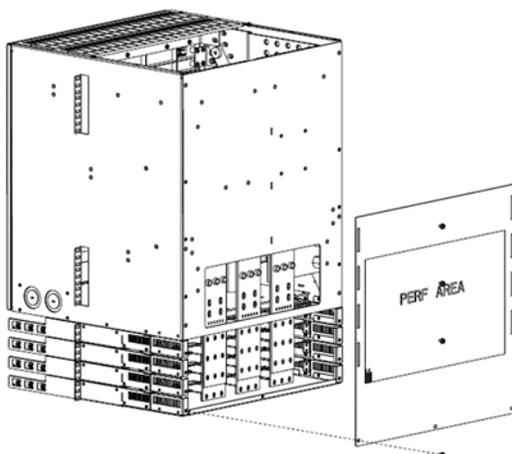

Figure 4a. Back cover removed
2. Remove the back side cover of the system by opening the 10-32 hex slotted screws as shown in figure 4a. Torque screw 30 in-lb. (3.38Nm).